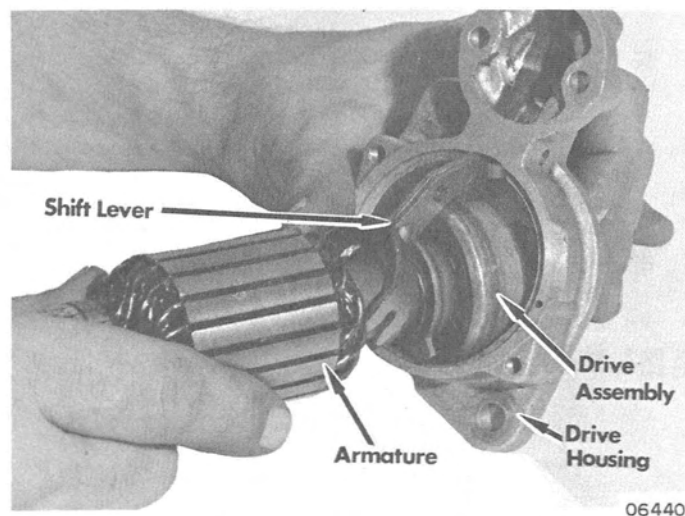

Figure 5. Removing Armature, Drive and Shift Lever
8. Remove armature, drive and shift lever from drive housing as an assembly. (Figure 5) Do not lose wear washer from armature shaft.
8. Install armature and shift lever in drive housing by reversing removal procedure shown in Figure 5.